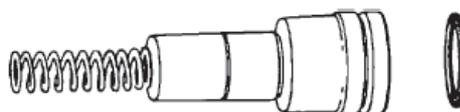

Figure 12 Piston and O ring
- h. Remove and discard the piston O ring (Figure 12).